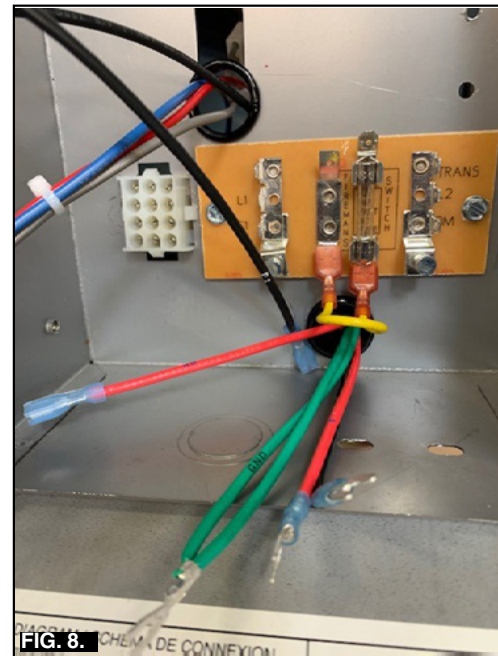

FIG. 8.
4. Route the Red and Green wires into the Control Box through the bottom hole. Plug the Fireman's jumper into the terminal board. Install bushing. Be sure the bushings are install when routing the wires into the Junction box. (Fig. 8). *Note: The plugs are shown in the control box and the Fireman's jumper installed.*